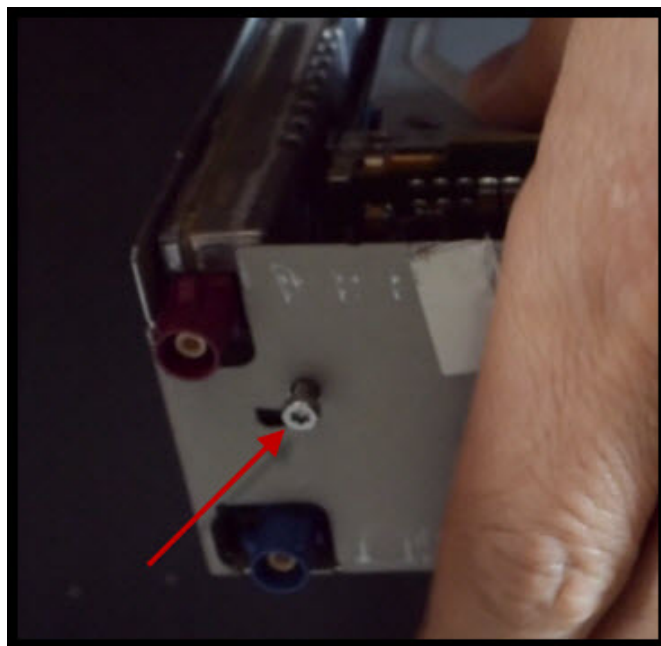

Figure 12. Telephone module retaining screw indicated by the red arrow.
10. On the back of the main unit, remove the retaining screw that holds the telephone module in place (Figure 12).